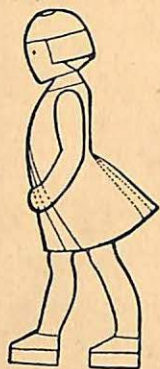

Fig. 1
1. Draw the figure on paper. This drawing *must be in profile* (see Fig. 1), *not* a foreshortened three-quarter view, as in the illustration. Make three tracings of the drawing on tracing paper (see Fig. 3), test them to see that they correspond; make a tracing of the arm also. These are the Working Drawings, and must now be traced on the wood. Arrange them carefully according to the grain of the wood. (See Notes on Cutting, page 8.) If the figure is to be fitted into a stand, allow an extra  $\frac{3}{8}$  in. on the soles of the feet (see Fig. 3).